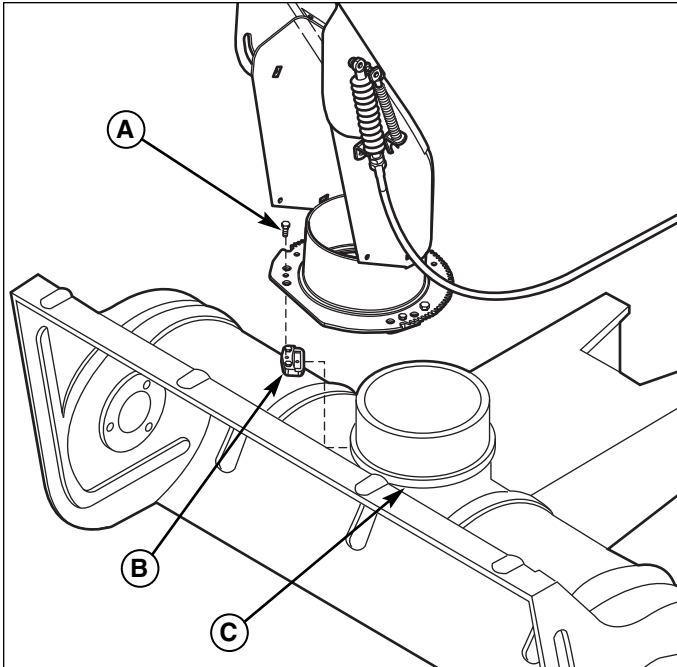

Figure 17. Assemble Discharge Chute
1. Remove the three hold downs (B, Figure 17) and plastite screws (A).
4. Install the discharge chute and secure to the chute ring (C, Figure 17) using the three hold downs (B) and plastite screws (A).